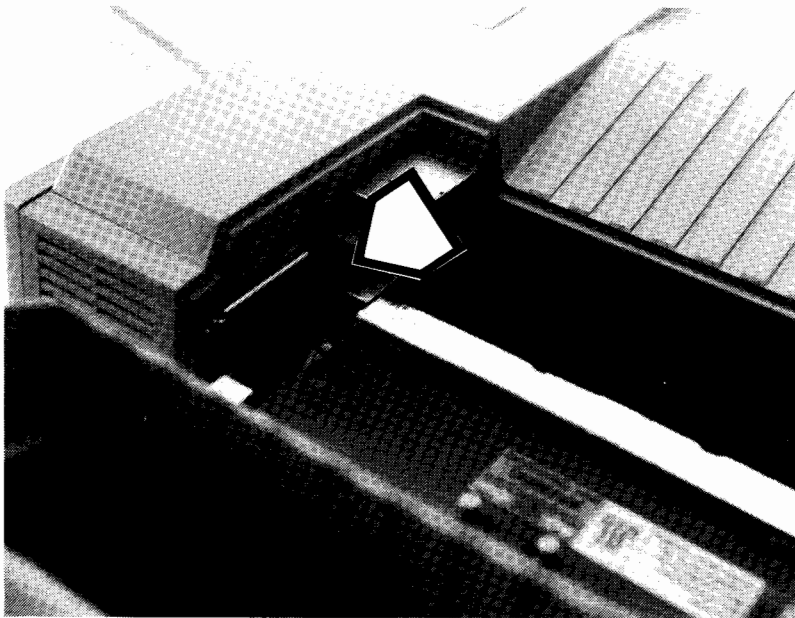

Figure 5-8. Cleaning Separation Pawls
- g. Clean the 3 separation pawls. Toner builds up on the tips of the pawls and can easily be cleaned by chipping it off lightly with your fingernails (see figure 5-8).